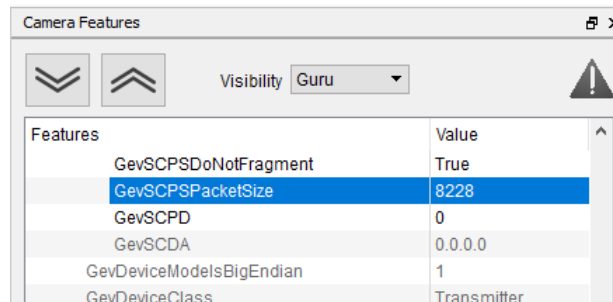

Figure 2.6: Stream Channel Packet Size Configuration (`GevSCSPacketSize`)
2. Manually set the value. After connecting to the camera, open the feature browser, change visibility to Guru, and set the desired value to the `GevSCSPacketSize` feature (see Fig. 2.6).